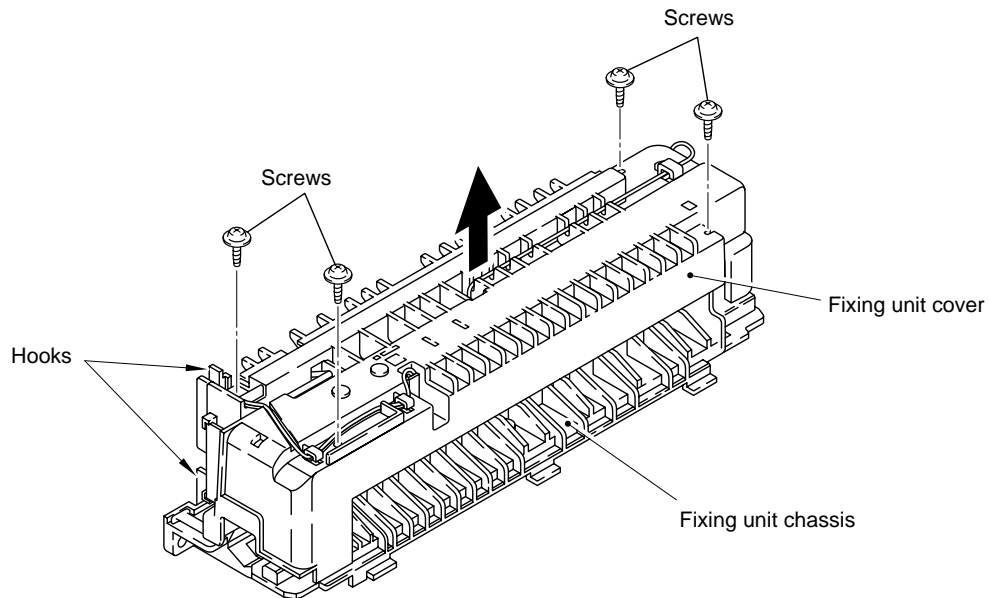

Figure 4.51
- (5) Remove the Thermistor lead wire connector (2P) of the Fixing PCB (see Figure 4.51).
- (6) Detach the wire from the hooks of the Fixing unit chassis.
- (7) Loosen 4 screws and remove the Fixing unit cover.